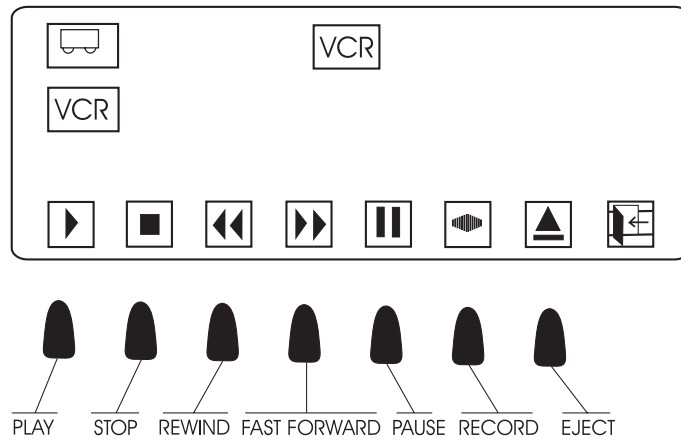

Figure 17. CM9760-KBD VCR Control Functions
1. Select an input (camera) that was programmed as a VCR on the keyboard. This will cause the keyboard's LCD to change to the VCR control menu illustrated in Figure 17.